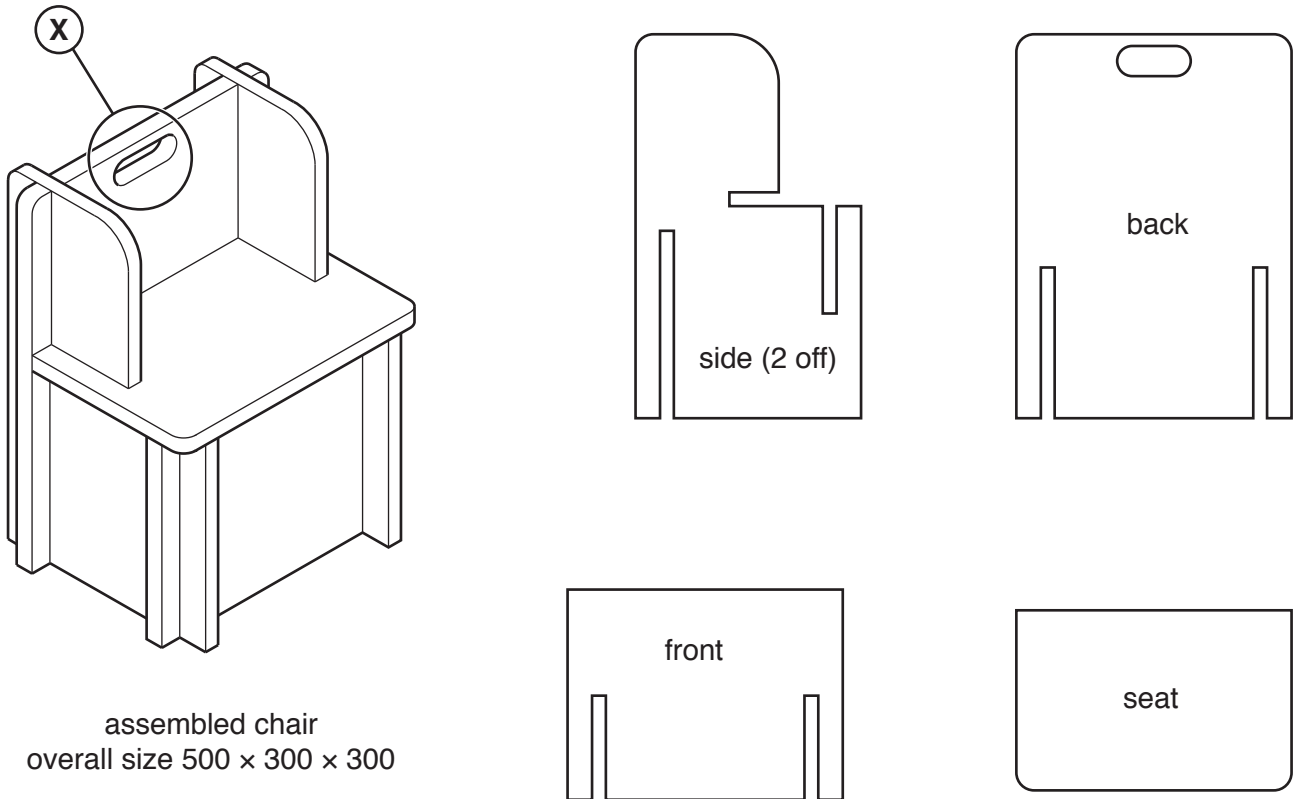

Fig. 4
- 4 Fig. 4 gives details about a child's chair that is made from five pieces of plywood which slot together. The chair will be manufactured and sold in flat-pack form, ready for the customer to assemble at home.